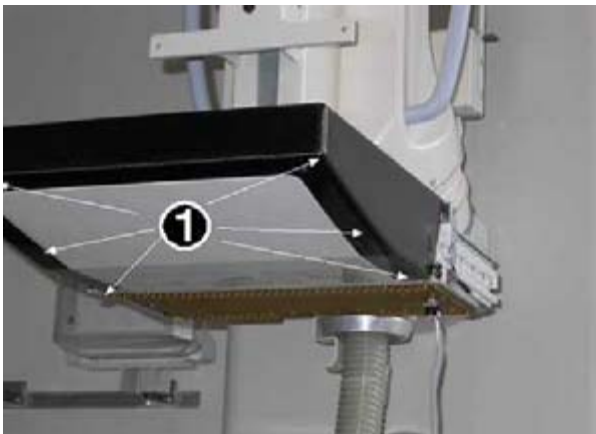

Fig. 1: Remove carbon cover
5. To remove the carbon-fiber cover of the object table, unscrew the six M3 x screws on the bottom first, then very carefully pull the cover out horizontally to avoid damage to the reciprocating grid, (see (1/Fig. 1 / p. 12)).